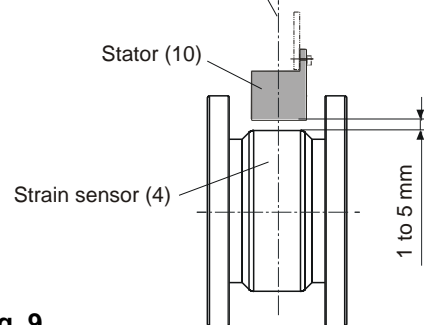

Fig. 9
The stator (10) is mountable on all sides, and it is therefore only necessary to align it in its axial and radial position, relative to the strain sensor (4). The axial position is central to the strain sensor (4); the radial distance can total between 1 mm and 5 mm (Fig. 9). If installed correctly, the LED on the ROBA®-DSM receiver (9) lights up green and indicates that the data transmission works.